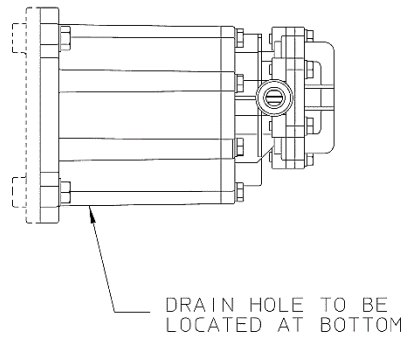

Figure 27a.
5. Place the center housing, with O-rings, onto the motor spool or adaptor, aligning the port connections between the set of motor spool bolt holes that permit the motor adapter spool drain hole to be positioned as shown in Figure 27a.